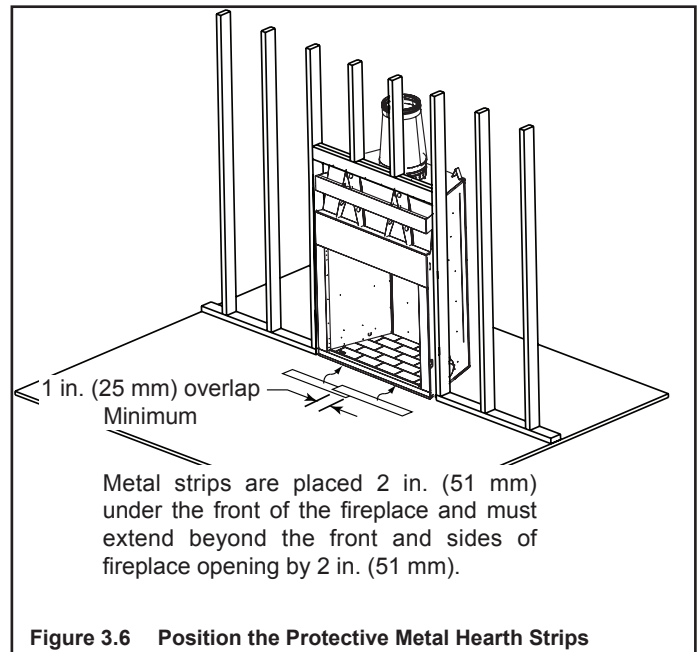

Figure 3.6 Position the Protective Metal Hearth Strips
- Metal strips must extend beyond the front and sides of the fireplace opening by at least 2 in. (51 mm), Figure 3.6).